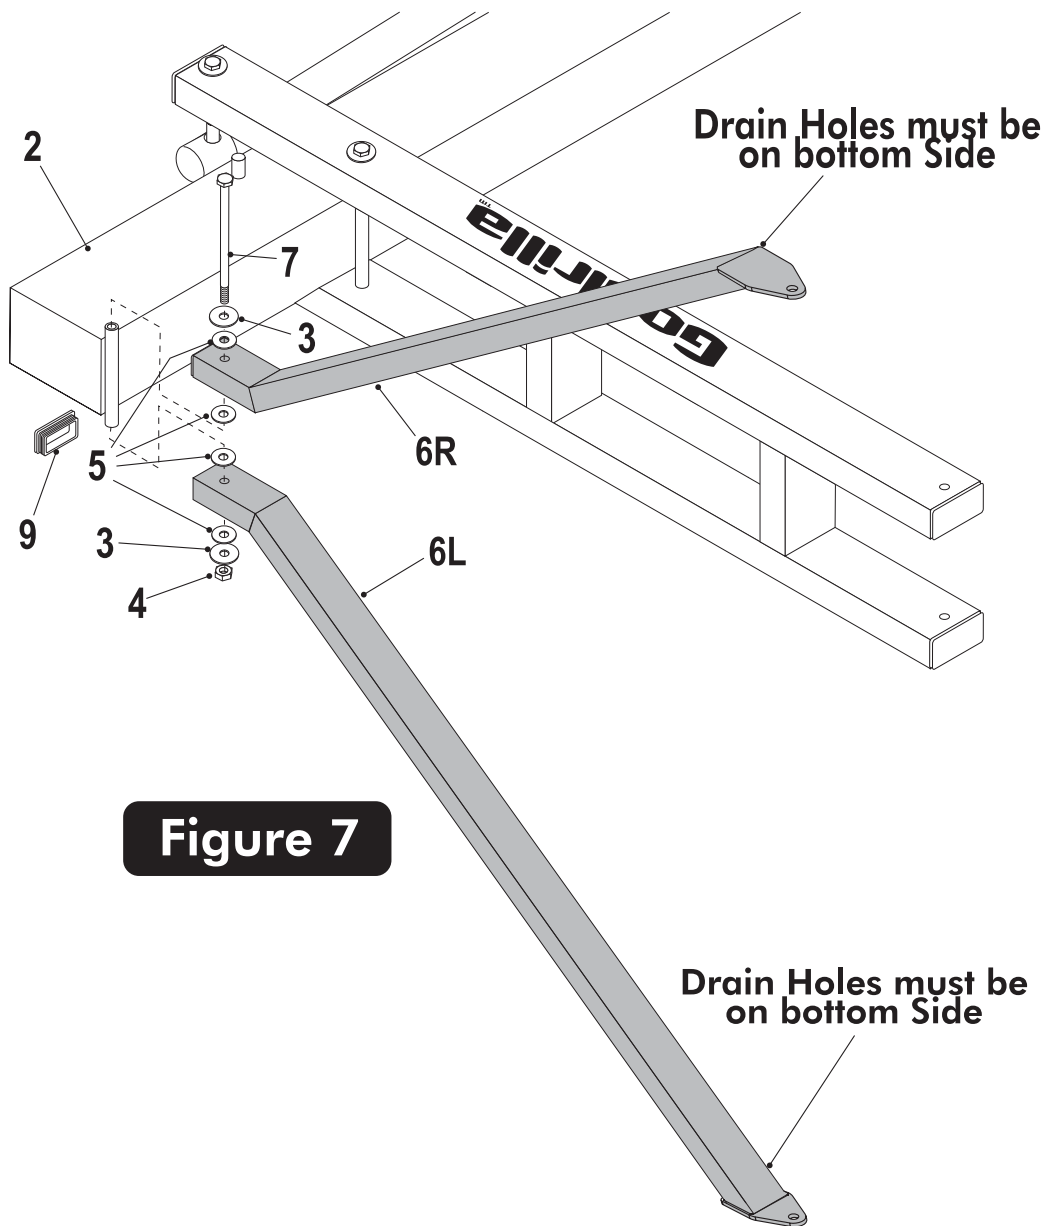

Figure 7
8. Attach Upper Arms (#6L & 6R) to pole (#2), as shown in Figure 7. Using a bolt (#8), two Flat Washers (#3), four plastic washers (#5) and hex nut (#49).